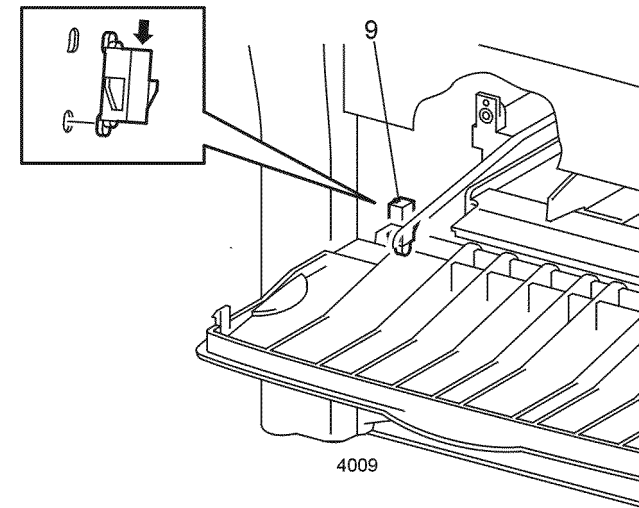

Figure 2 Left Tray Stop
8. Push down on the left tray stop, pull out to remove (Figure 2).